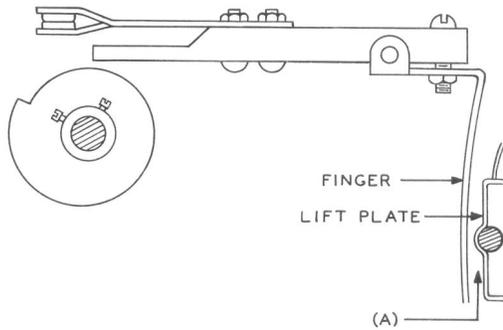

Fig. 6 – Separation Between Finger and Lift Plate
2.07 Separation Between Finger and Lift Plate: Fig. 6(A) — With the armature